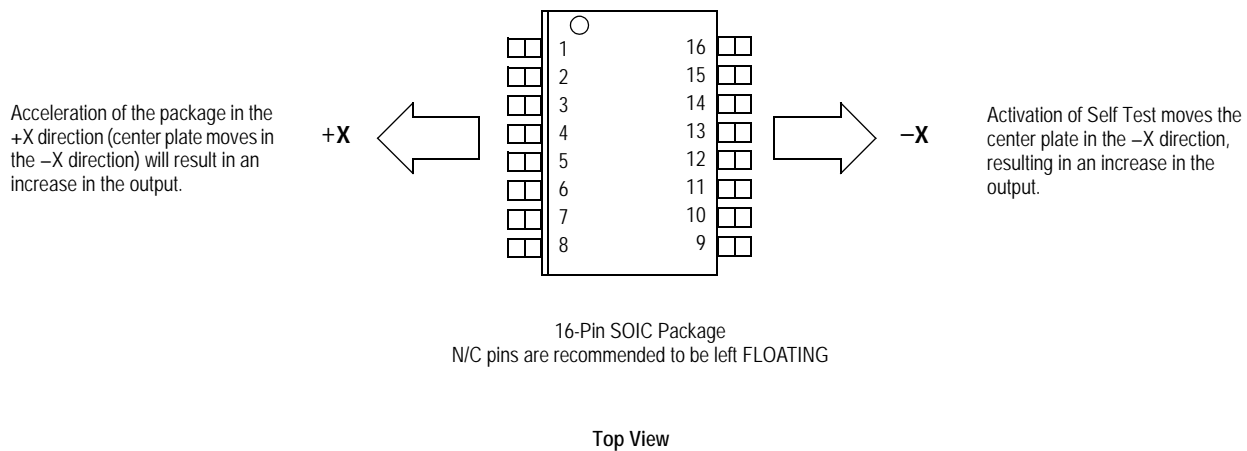

**Figure 5. Recommended PCB Layout for Interfacing Accelerometer to Microcontroller**
3. Place a ground plane beneath the accelerometer to reduce noise, the ground plane should be attached to all of the open ended terminals shown in Figure 5.